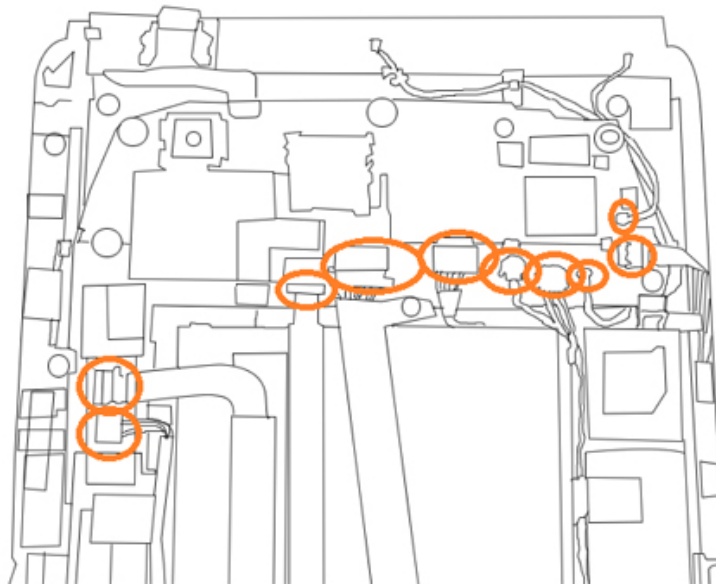

Figure 3
- Release the nine (9) flex cables as shown in Figure 3. Some are pop connections (antenna), others are clip (such as battery), and a few are jaw connections (lift the back clip and then release the cable).